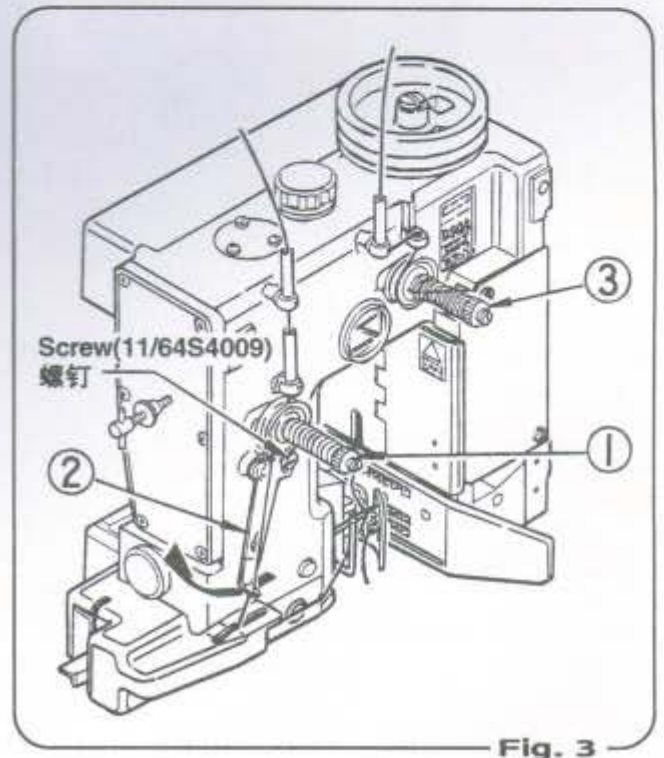

Fig. 3
### 1. Thread Tension (Figure 3)
Proper thread tension may slightly vary with the type of bag and thread. The norm is given below. Thread tension regulators are mounted so that the tension is uniform for stitch length. To adjust the tightness of seam, adjust ①, ③ in Figure 3.
### 1. 穿线张紧度调整(图3参照)
线调节是在缝口袋时最重要的项目,请注意,线调节不对可能成为断线、跳针、破袋等的故障原因。由于袋料和缝线种类,线调节(图3-①、③)有些不一样,但原则上按下记指示进行调整。